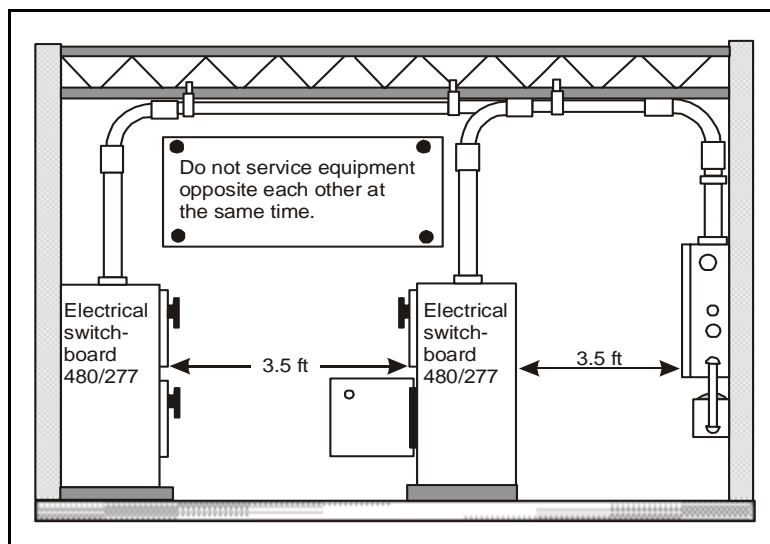

Figure 12-2.—Access and working space requirements around enclosures and equipment.
a. Figure 12-2 and table 12-4 provide access and working space distances around electrical equipment and enclosures, e.g., panelboards, motor controls, disconnects, etc., to permit ready and safe operation and maintenance. Keep working space clear at all times.